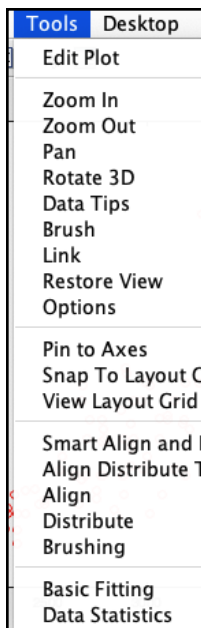

Figure 3. Matlab Tools and Basic Fitting.
- e) Use the plot generated in part (d) to do Basic Fitting (see Figure 3):